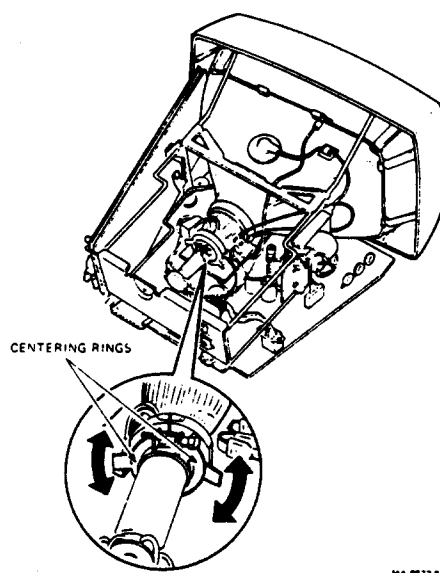

Figure 4-3 Centering Adjustments
3. If the distance is less than 3 mm in either case, center the screen display by rotating the centering rings on the neck of the CRT. Use the ring tabs to rotate these rings (Figure 4-3).
4. Repeat Paragraph 4.2.4.1 to bring the horizontal centering control (PH) within range.